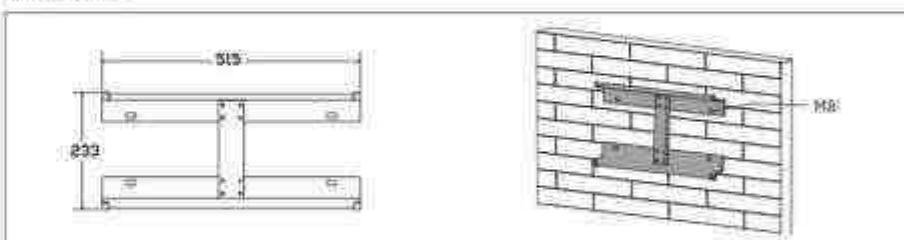

Figure 3.4-1 Install the inverter hanging plate
Step 1. Please use the mounting bracket as a template to drill 5 holes in the right positions (10mm in diameter, and 80mm in depth). Use M8 expansion bolts in accessory box and fix the mounting. With a 12mm drill bracket onto the wall tightly. The installation of inverter support is shown in Figure 3.4-1.